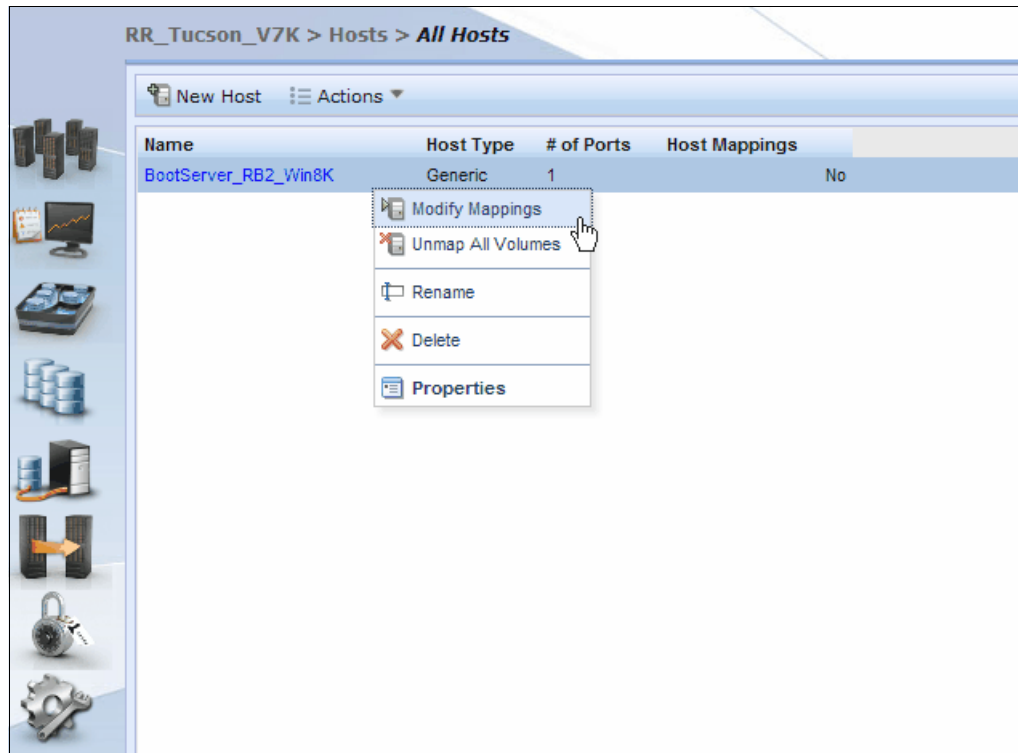

Figure 5-32 Modify Mappings
2. Right-click the host and select **Modify Mappings**, as shown in Figure 5-32.